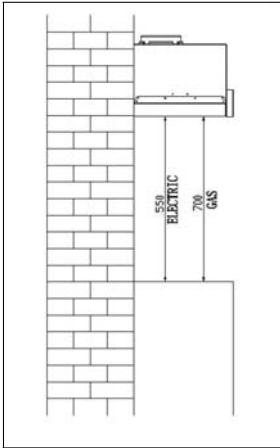

Fig.1
- The extractor hood can be installed over gas and electric cook top. Minimum installation height from the bench top to the bottom of the hood is 700mm (gas range) and 550mm (electric range) (Fig. 1).